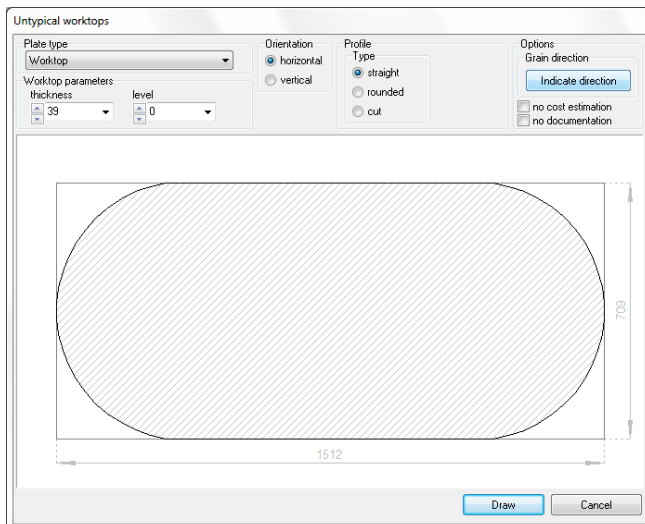

Fig. 219 – Untypical worktops window
- the outline for a worktop will be loaded and the **Untypical worktops** window will open (Fig. 219);